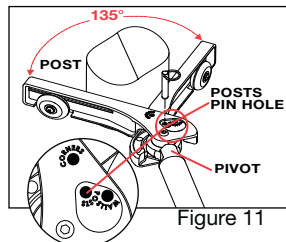

Figure 11
C. For stretching off round posts, the tail block must be folded at a 135° angle, but the tube needs to be locked and not swivel. Remove the lock pin, fold the legs to a 135° angle and align the notch in the back of the pivot. Reinsert the lock pin into the front hole marked "POSTS". (See figure 11.)